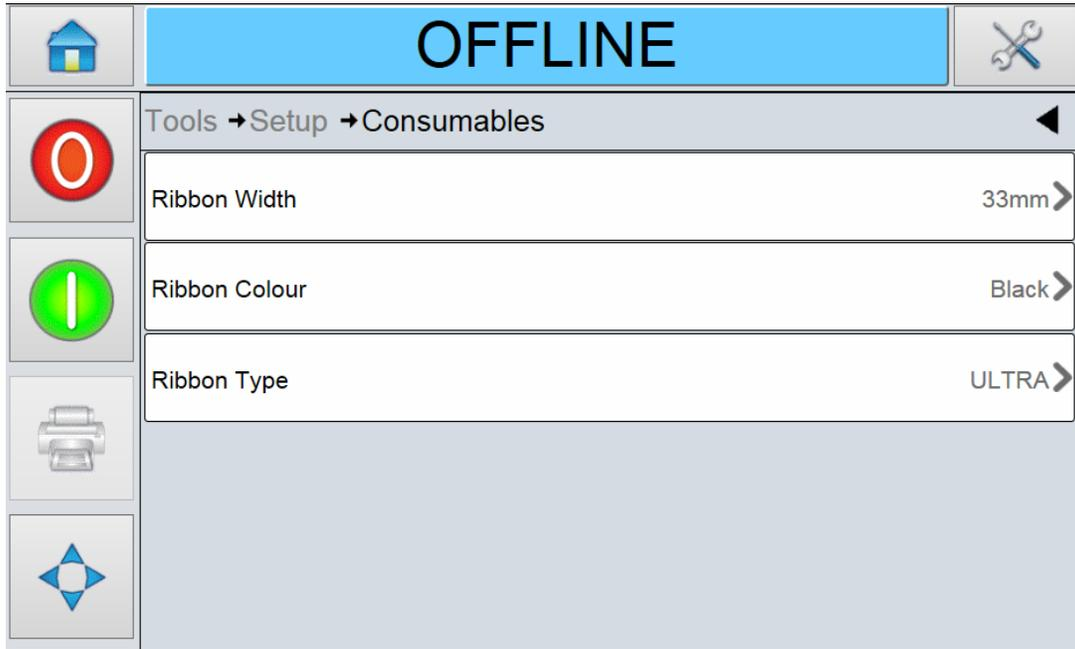

Figure 4-17: Printer Ribbon Parameters
1. Navigate to *Tools > Setup > Consumables > Ribbon Width* (see Figure 4-17).
1. Navigate to *Tools > Setup > Consumables > Ribbon Colour* as shown in Figure 4-17 on page 4-14.